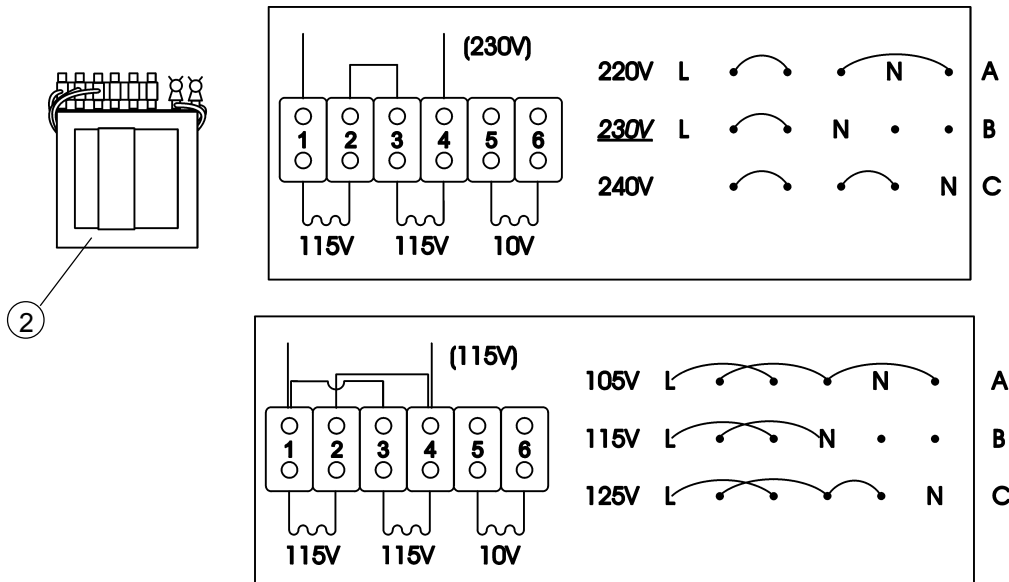

Figure 5
3. Check the transformer (2) tapping for the correct configuration, figure 5.